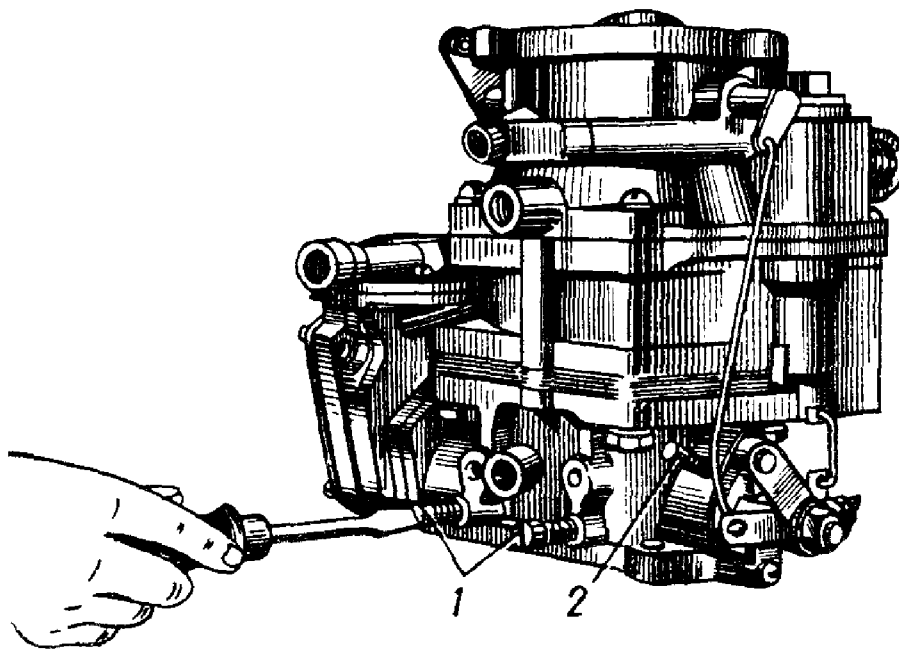

FIG.38. CARBURETTOR IDLE SPEED ADJUSTMENT
1. Completely turn in idle adjusting screws 1 (Fig.38), than turn each of them back three revolutions.